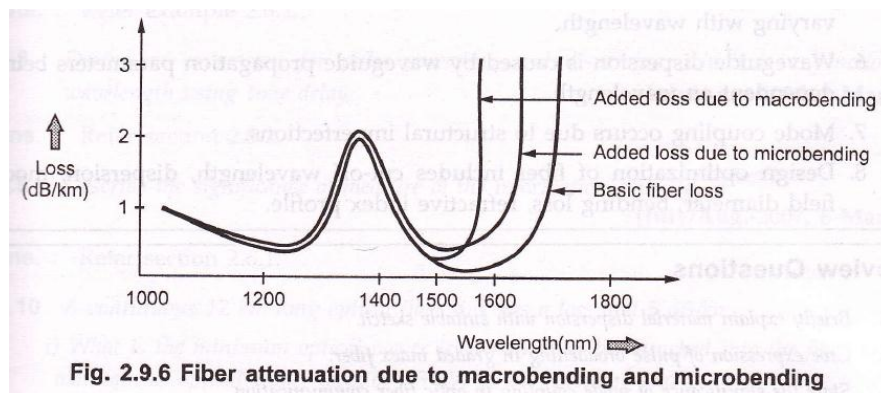

Fig. 2.9.6 Fiber attenuation due to macrobending and microbending
- The macrobending and microbending losses are significant in single mode fibers at 1550 nm region, the lower cut-off wavelengths affects more. Fig. 2.9.6 shows macrobending losses.